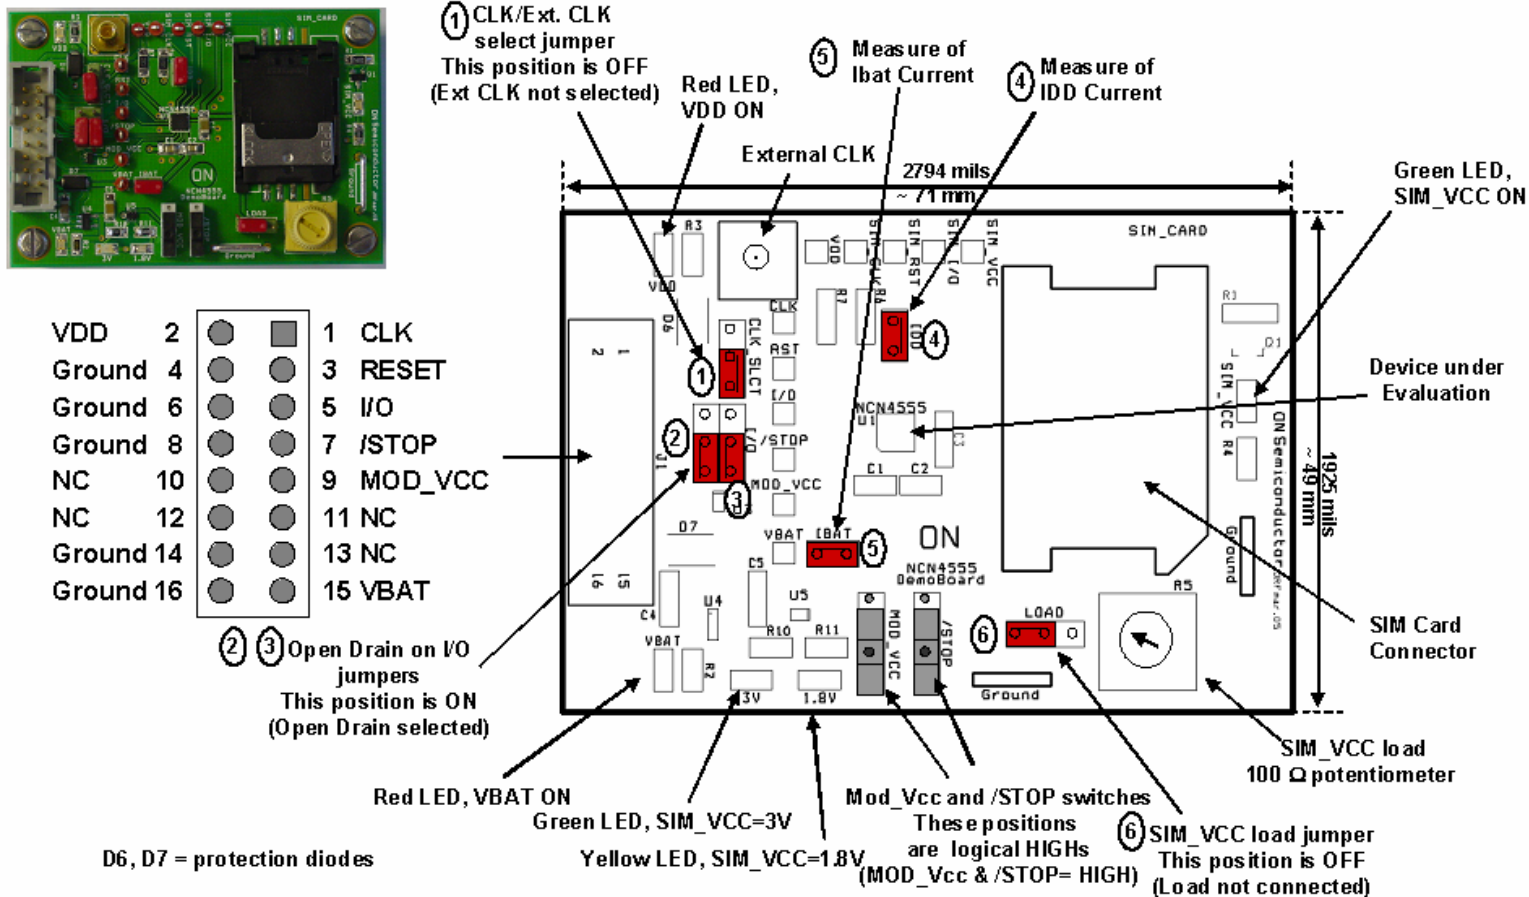

Figure 1 : NCN4555 Evaluation Board Details
All the positions of switches given below refer strictly to the logical positions (High or Low) indicated Figure 1.
1. Setup NCN4555GEVB as follows (Figure 1):
Jumper 1: as shown in Figure 1, internal clock selected (through HE10 connector).
Jumpers 2 and 3: Jumpers in off position contrary to Figure 1 where the position is on. The Open Drain will then be unconnected and the I/O signal will be applied directly to the I/O NCN4555 input through the HE10 connector.
Jumper 4: plugged as in Figure 1.
Jumper 5: plugged as in Figure 1.
Jumper 6: 100 Ω potentiometer not connected, as in Figure 1.
- To evaluate SIM_CLK a clock signal has to be connected either using the external clock input (SMB connector) or through the HE10 connector. The selection is done using the corresponding jumper (See Figure 1). The max clock frequency will be 5 MHz and the signal will have to accommodate the specifications provided in the datasheet; the clock signal is a 50% duty cycle square wave with a peak to peak of 3.3 V and an offset of 1.65 V (this will be the clock input used for all measurements). Note the rise and fall times for SIM_CLK; they should be < 18 ns.